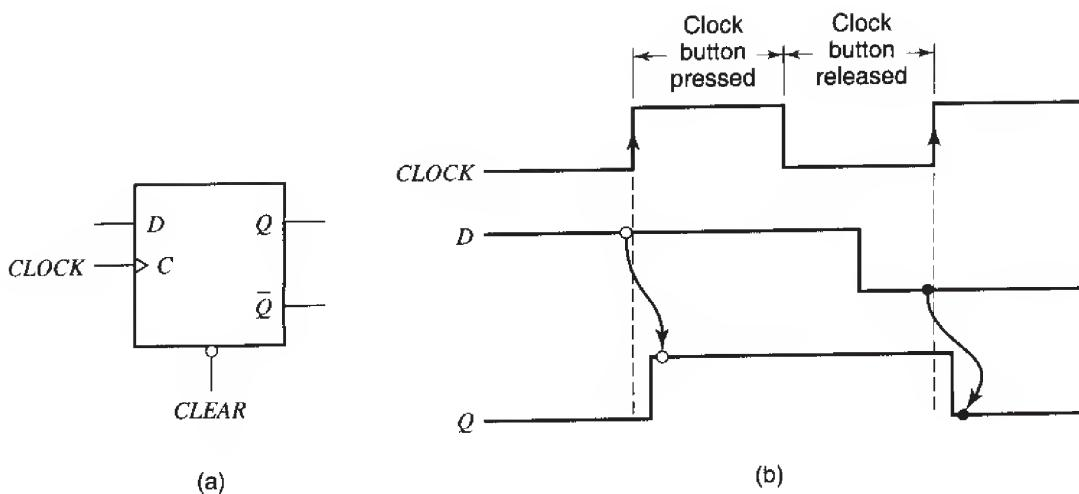
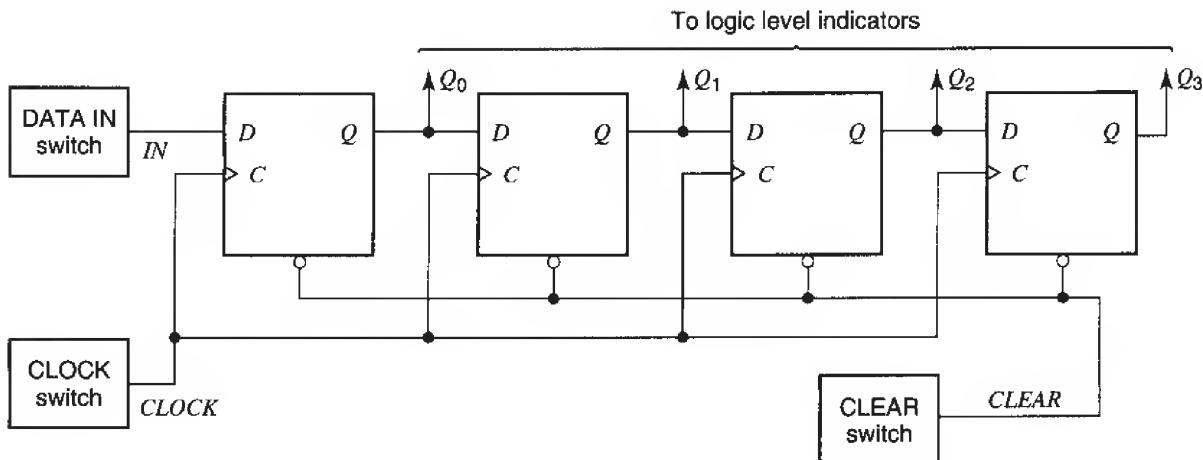

Fig. 2
Fig. 7
A *positive-edge-triggered D flip-flop* is shown in Fig. 2(a). Assume first that the *CLEAR* signal is high. Then the flip-flop has the following property: *Data at the input, D, is transferred to the output, Q, when the clock signal makes the transition from low to high.* That is, if the input D is steady at a logic 1 when the clock goes to high, the input logic 1 is transferred to the output Q; if, instead, the input is 0 when the clock goes to high, this 0 is transferred to the output. The data is held at the output until the next low-to-high clock transition. These properties are illustrated in Fig. 2(b). In this figure, we also indicate the fact that the new output appears after a very small delay (typically in the tens of ns). Since the input data are transferred to the output when the clock goes from low to high, this is called a positive-edge-triggered D flip-flop. For correct operation of this flip-flop, the data at D must be steady before the clock low-to-high transition takes place, at least for the minimum time specified by the flip-flop manufacturer (e.g., for 20 ns).
10. Consider the four-stage shift register in Fig. 7, but do not build it yet. Assume that all outputs are cleared and then a 1 is placed at the input IN . Assume that the clock button is pressed and released *once*. What will the values of Q_0 , Q_1 , Q_2 , and Q_3 become? [Hint: When the clock goes from low to high, each flip-flop transfers to its Q the value that existed at its D just before the clock transition; see Fig. 2(b).]
11. Now build the circuit of Fig. 7. All four D flip-flops needed can be found inside the same 74LS175 chip, the pin assignment for which was given in Fig. 4. It will help if, before starting to build the circuit, you mark Fig. 7 with the appropriate pin numbers from Fig. 4. Be sure to connect the ground and supply pins. If no logic level indicators are provided on your breadboard, use four indicators of the type shown in Fig. 5.
19. Lower the frequency of the signal to 1 Hz. *Disconnect the clock switch circuit from the input of the shift register of Fig. 7*, and connect instead your function generator output to it, as shown in Fig. 8. The LED at the function generator output should be lighting up 1 time per second.